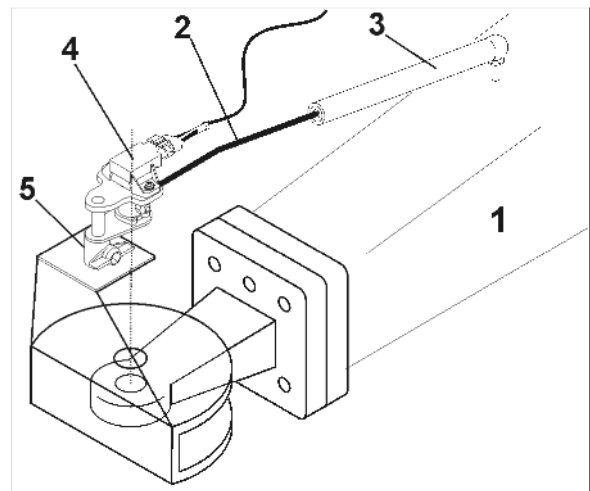

Fig. 65
TrailTron tracking control for automatic, virtually 100% precise tracking captures the position of the angle of the drawbar (Fig. 65/1) to determine the direction of travel of the tractor.
1. Insert the rod (Fig. 65/2) into the plastic bush (Fig. 65/3) stecken.
2. Insert the position encoder (Fig. 65/4) into the holder (Fig. 65/5).